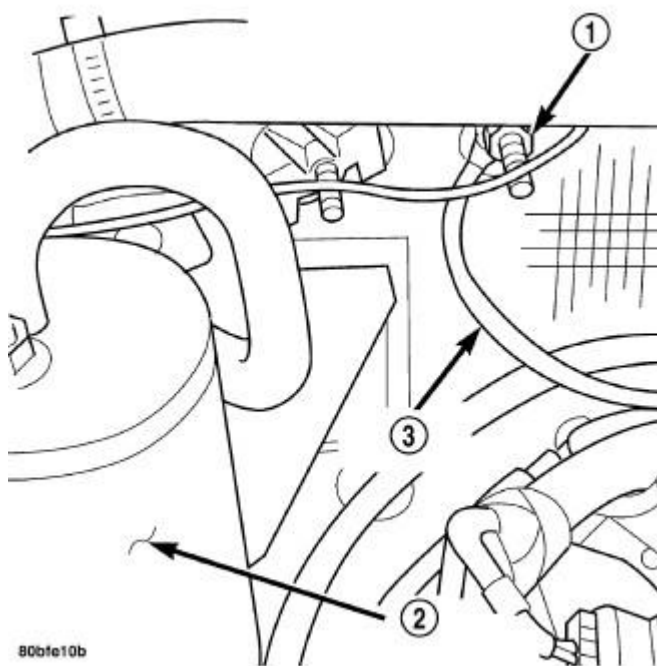
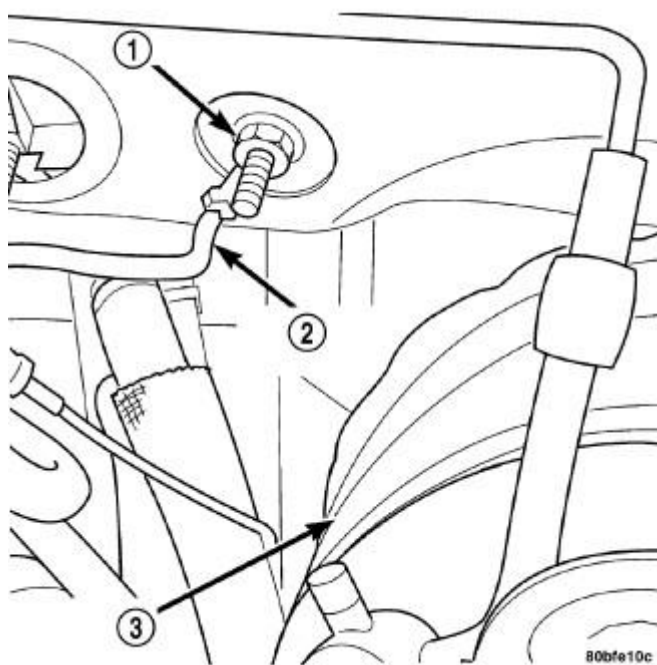

Fig. 13: Removal/Installation Body Ground Strap-Right Side
Fig. 14: Removal/Installation Body Ground Strap-Left Side
7. Connect the ground straps on the left (2) and right (3) side of the engine. Refer to **Fig. 14**. Refer to **Fig. 13**.